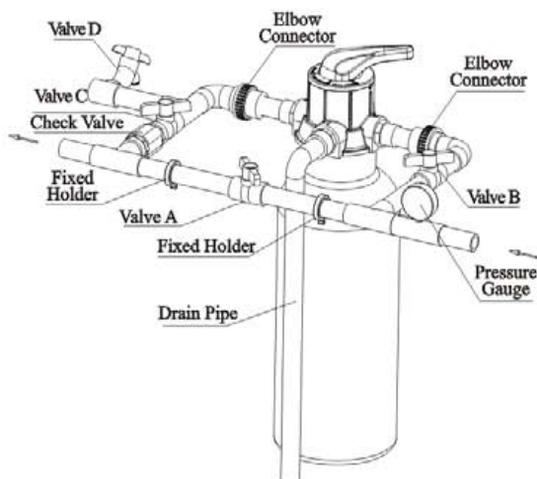

Figure 1-2
②Pipeline connection
- a. As Figure 1-2 shows, install a pressure gauge in water inlet.
- A. Close the inlet valve B & C, and open the bypass valve A. After cleaning the impurities in the pipe, close the bypass valve A. (As Figure 1-2 shows, the same as below)